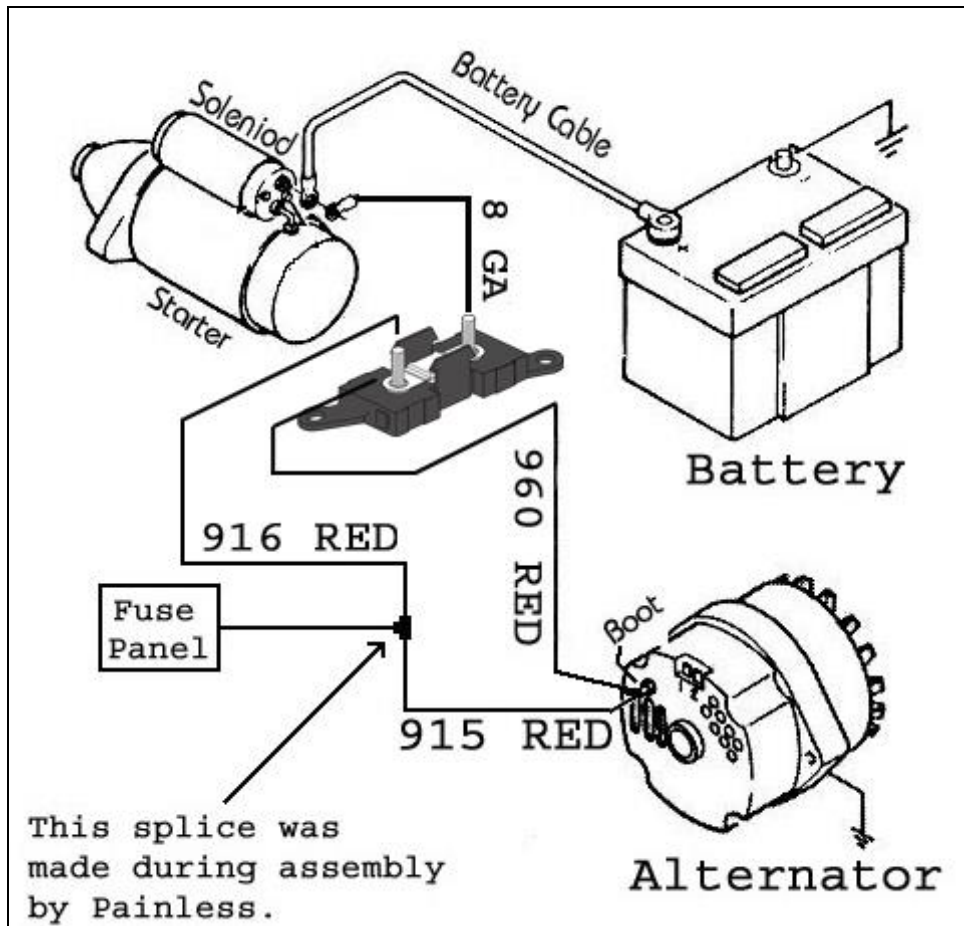

Figure 7.4 High Output Alternators (over 65 amps)
7.4 HIGH OUTPUT ALTERNATORS (SEE FIGURE 7.4)